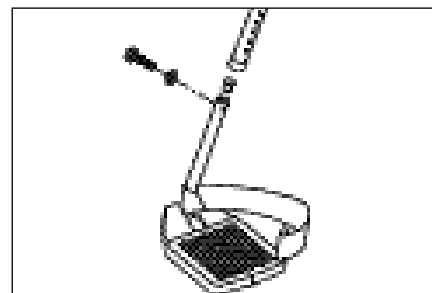

Figure 5
D. FIXED FRONT FOOTREST ADJUSTMENT (Fig. 5)